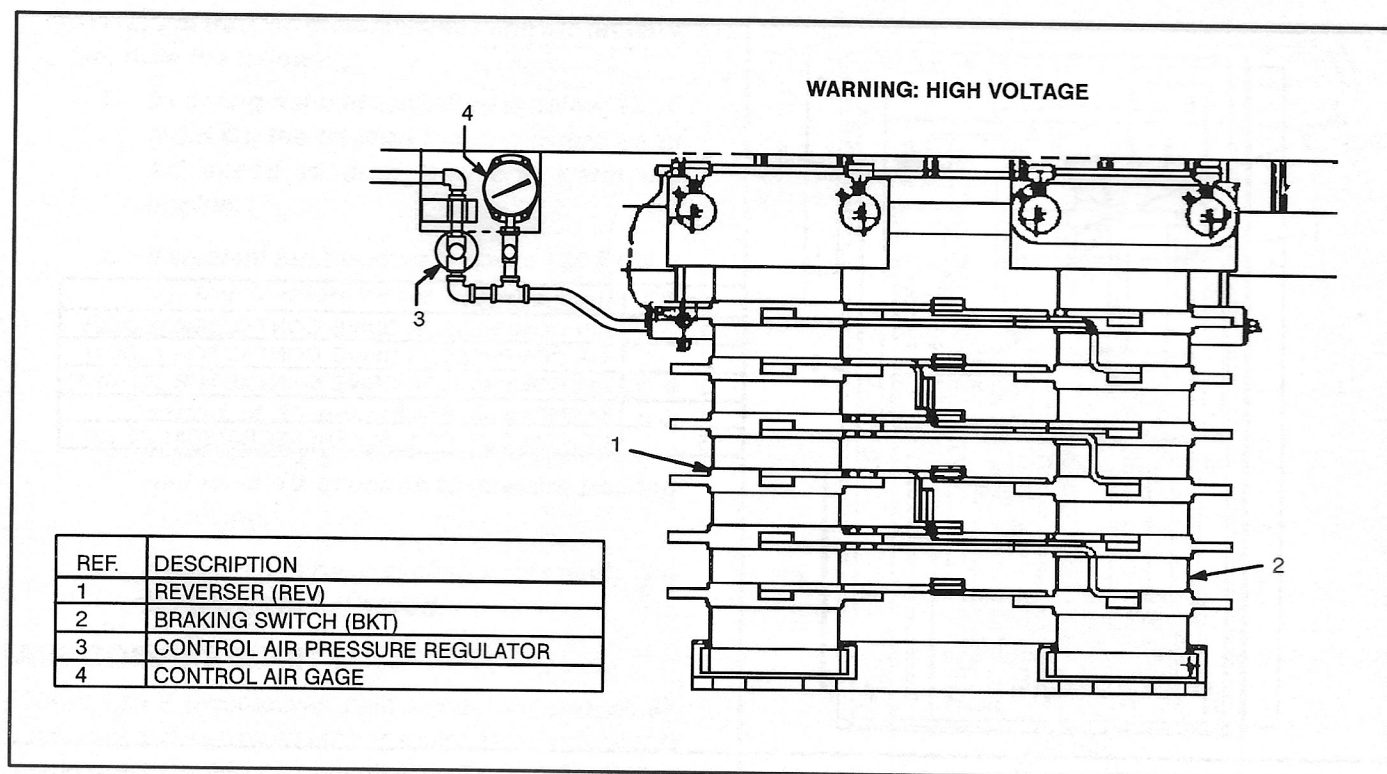

FIG. 26. CONTROL AREA 7 – LOCATED ON THE LEFT SIDE OF THE LOCOMOTIVE. E-40702.
### Control Air Reducing Valve (Located in Control Area 7, Fig. 26)
Located on the left (B) side of the locomotive (Fig. 26).
1. Control Air Gage – Located in Control Area 7 (Fig. 26). Normal control air pressure is 80 psi (551,2 kPa).